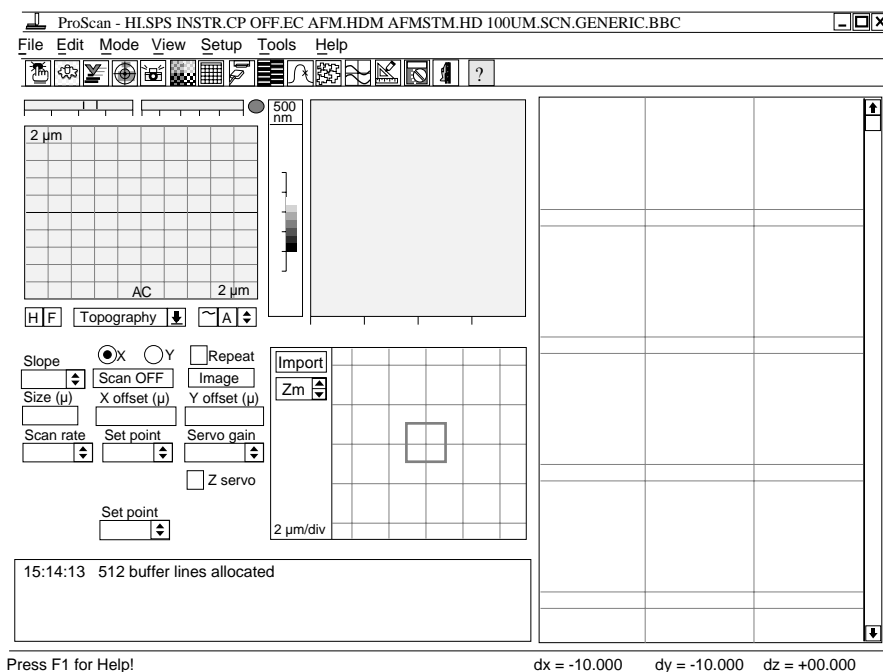

Figure 3-1. The Image mode window.
2. Switch to Image mode now by clicking the Image Mode icon, . The Image mode window is shown in Figure 3-1, below.